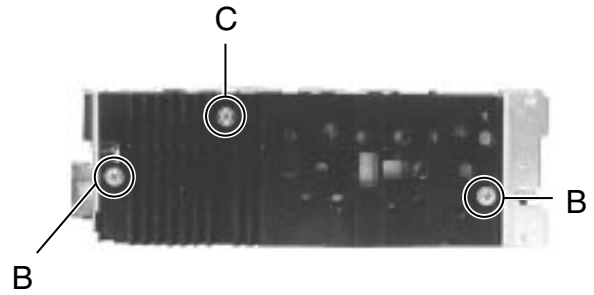
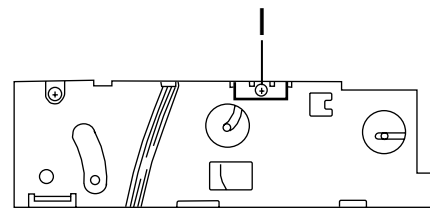

Fig 6
Fig.7
(See Fig. 6, Fig. 7)**
■ Removing the rear bracket (See Fig. 7)